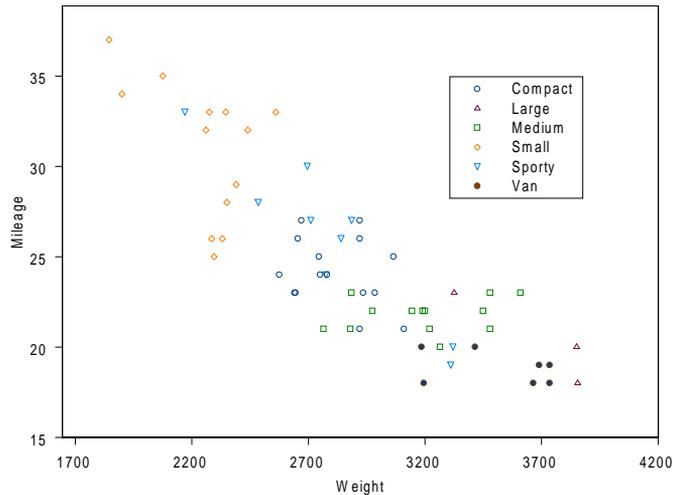

Figure 3.29: Color plot of Mileage by Weight with color and symbol style varying by Type for the fuel.frame data.
3. Click **OK**. (You can change the defaults for symbol styles and colors; see Chapter 11, Customizing Your Spotfire S+ Session, for more information.) Figure 3.29 displays the resulting color and symbol plot.